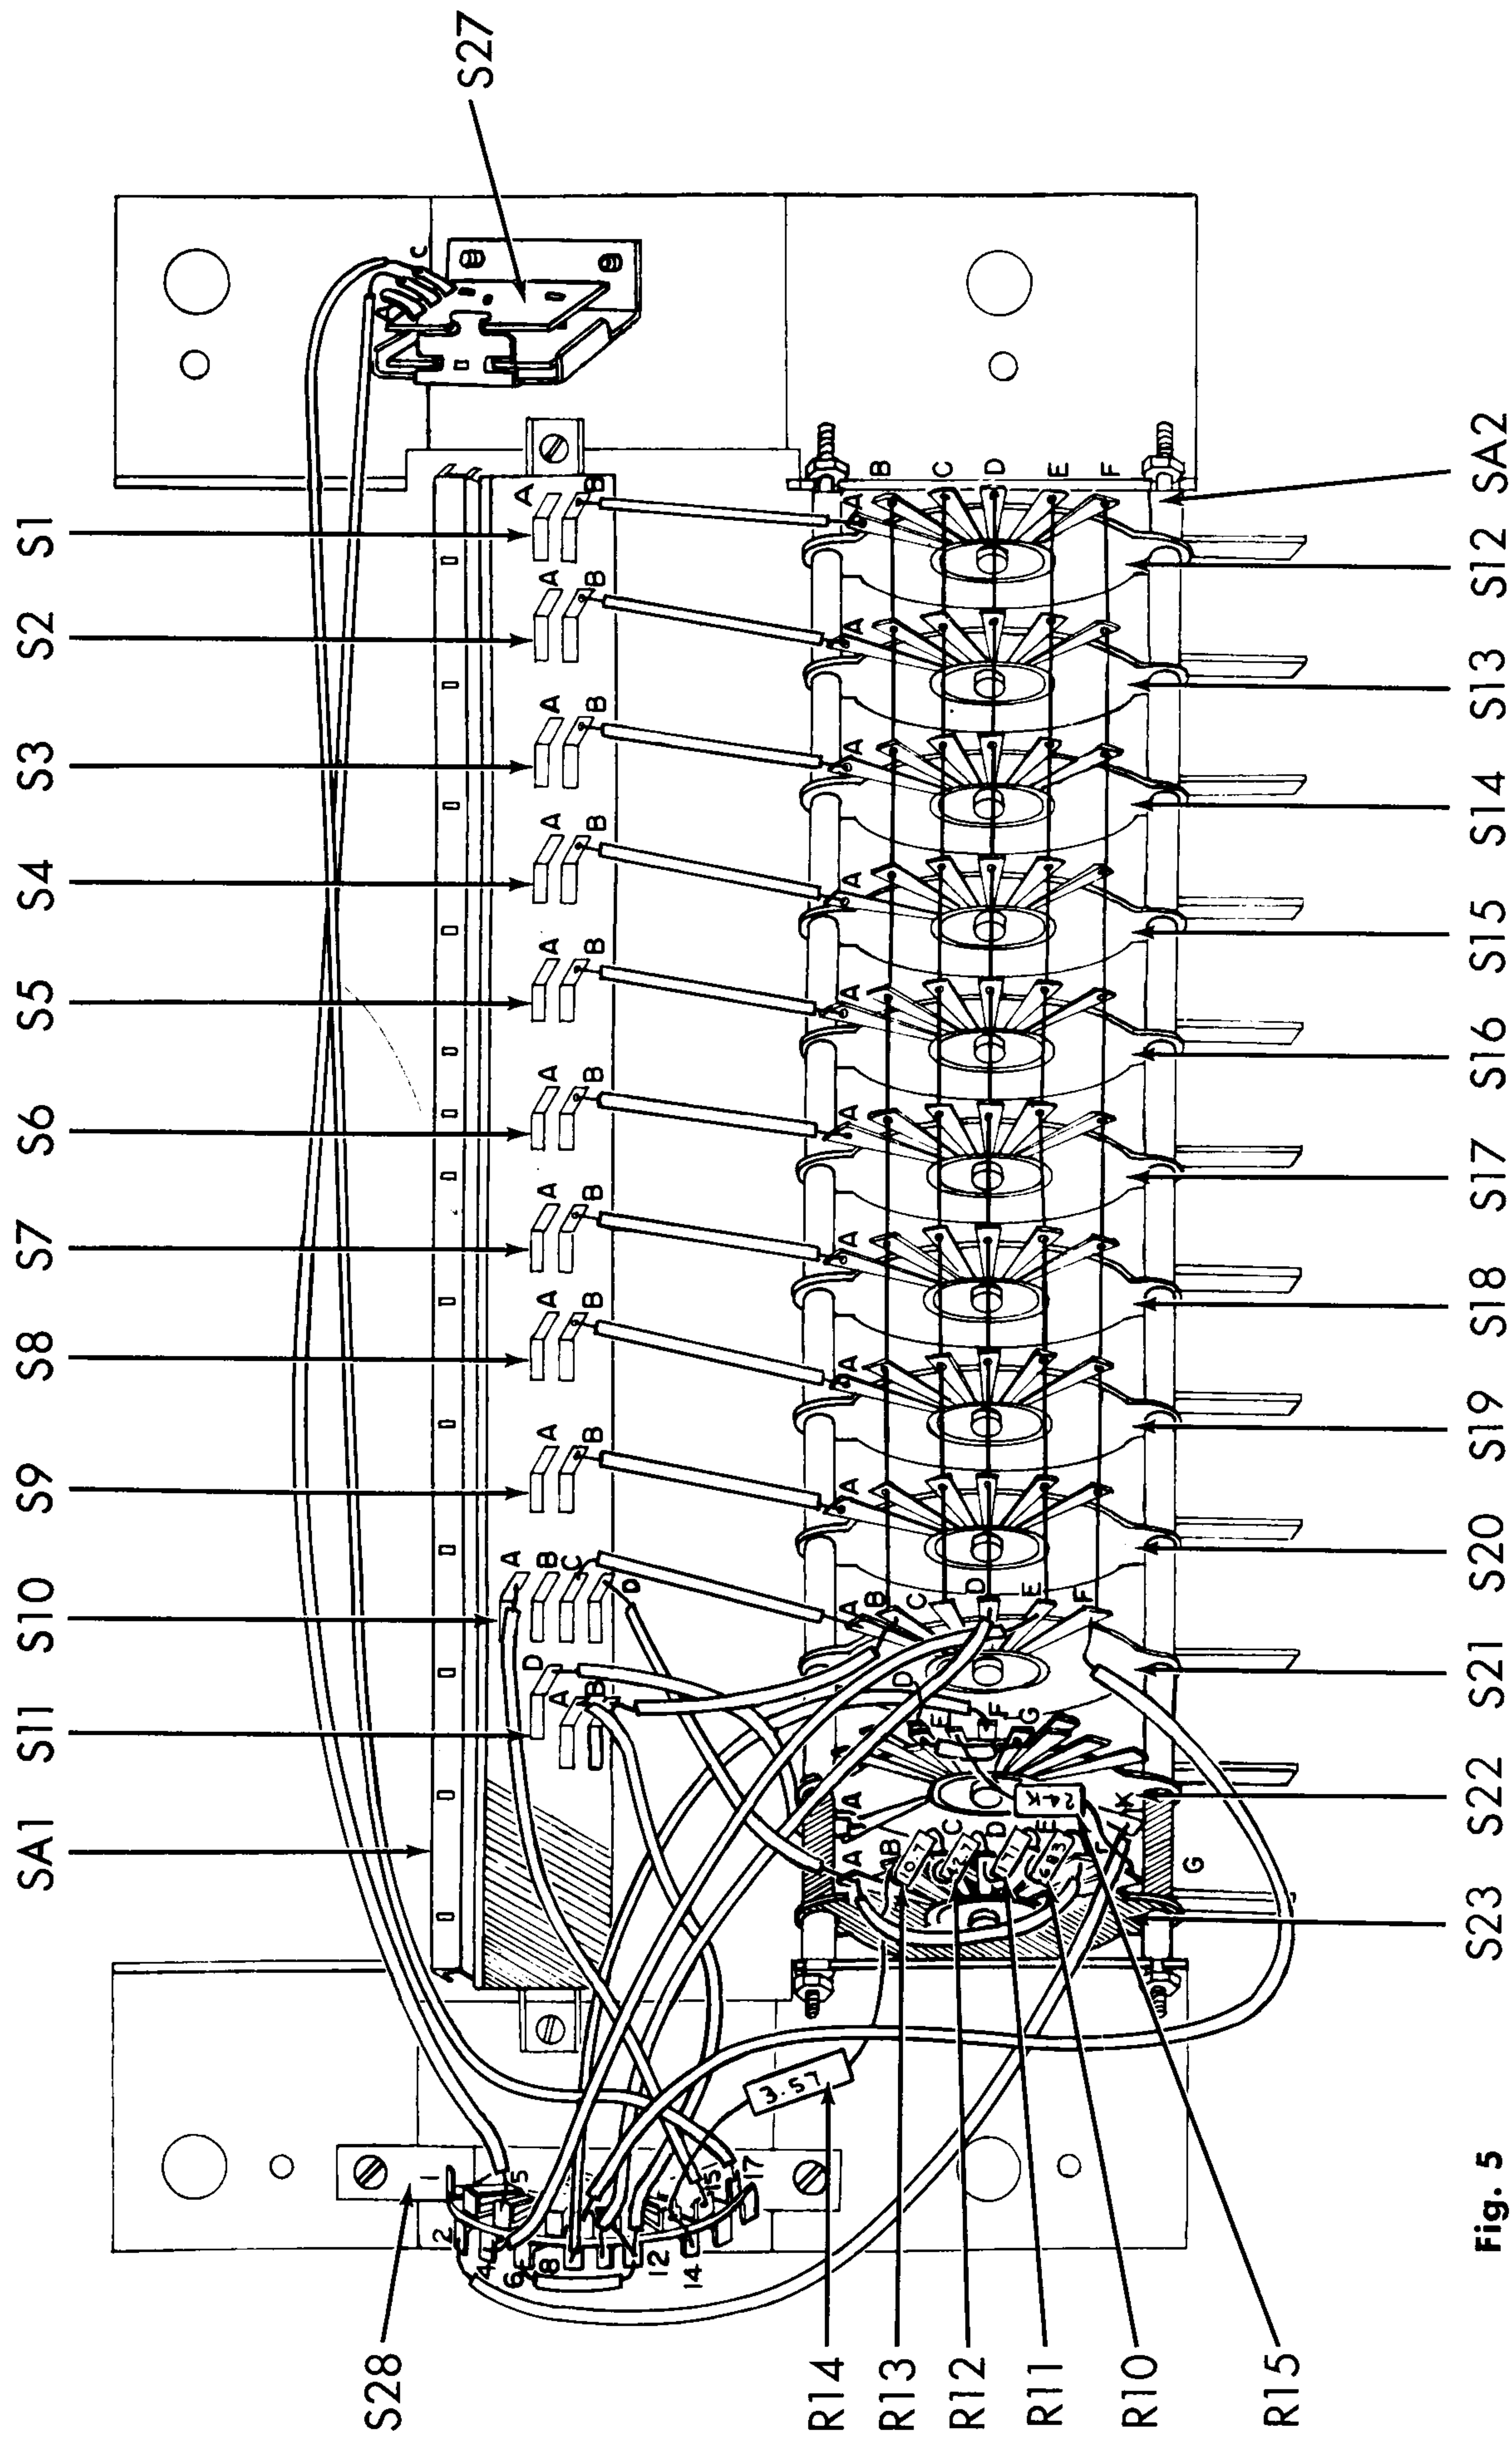

Fig. 5
(✓) 1. Fig. 5. Connect short lengths of bare wire, covered with spaghetti, between each of the following pairs of points (solder both ends):
(✓) 2. Fig. 5. Run one end of an 8" length of bare wire thru S12-B. Continue running it thru S13-B, S14-B, etc., finally connecting it to S21-B. Do not solder yet.
(✓) 3. Fig. 5. Repeat the above for S12-C thru S21-C.
(✓) 4. Fig. 5. Repeat the above for S12-D thru S21-D.
(✓) 5. Fig. 5. Repeat the above for S12-E thru S21-E.
(✓) 6. Fig. 5. Repeat the above for S12-F thru S21-F.
(✓) 7. Fig. 5. Connect one end of a 3" red lead to S22-A (S). Connect the other end to the dummy lug, S11-D (C).
(✓) 8. Fig. 5. Connect a short length of bare wire, covered with spaghetti, from S22-D (C) to S22-G (S).
(✓) 9. Fig. 5. Connect a short length of bare wire, covered with spaghetti, from S21-B (S) to S11-B (S).
(✓) 10. Fig. 5. Connect one end of a 3" blue lead from S10-D (S) to S23-A (C).
(✓) 11. Fig. 5. Connect one end of a short bare lead, covered with spaghetti, from S23-A (C) to S23-F (C).
(✓) 12. Fig. 5. Connect the 24K 1W resistor, R15, from S22-E (C) to S23-G (S).
(✓) 13. Fig. 5. Connect the 683 ohm resistor, R10, from S23-F (S) to S23-E (C).
(✓) 14. Fig. 5. Connect the 171 ohm resistor, R11, from S23-E (S) to S23-D (C).
(✓) 15. Fig. 5. Connect the 42.7 ohm resistor, R12, from S23-D (S) to S23-C (C).
(✓) 16. Fig. 5. Connect the 10.7 ohm resistor, R13, from S23-C (S) to S23-B (C).
(✓) 17. Fig. 5. Connect one end of the 3.57 ohm resistor, R14, to S23-B (S). Pass the other end thru S28-13 and connect to S28-14. Solder both points.
(✓) 18. Fig. 5. Connect a 5" violet lead from S10-A (S) to S28-15 (S).
(✓) 19. Fig. 5. Connect a 6" white lead from S21-F (S) to S28-9 (S).
(✓) 20. Fig. 5. Connect a 7" brown lead from S21-E (S) to S28-4 (S).
(✓) 21. Fig. 5. Connect a 6" yellow lead from S21-D (S) to S28-10 (S).
(✓) 22. Fig. 5. Connect a 4" black lead from S11-A (S) to S28-11 (S) and 12 (C).
(✓) 23. Fig. 5. Connect a short length of bare wire covered with spaghetti from S28-6 (S) to S28-12 (S).
(✓) 24. Fig. 5. Connect a 6" orange lead from S22-F (S) to S28-8 (S).
(✓) 25. Fig. 5. Connect a 8" red lead from S22-K (S) to S28-2 (S).
(✓) 26. Fig. 5. Connect a 15" grey lead from S28-17 (S) to S27-C (S).
(✓) 27. Fig. 5. Connect a 14" blue lead from S28-5 (S) to S27-B (S).